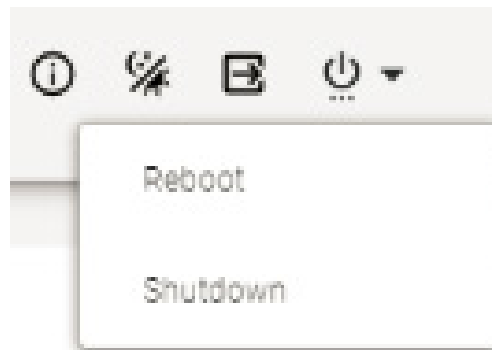

Figure 13 Reboot/Shutdown
- **Reboot/Shutdown** – Click the **On/Off** icon, then select **Reboot** or **Shutdown** to reboot or shut down the analyzer (see Figure 13).